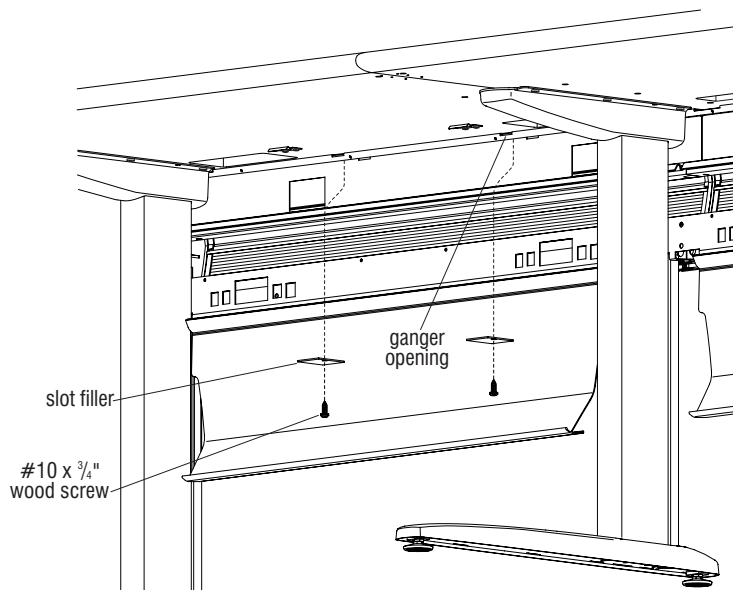

Figure 1
1. Position the slot filler behind the ganger opening, over the pre-drilled hole in the underside of the worksurface. Secure with #10 x $\frac{3}{4}$ " wood screw as illustrated (Figure 1 & Detail A).